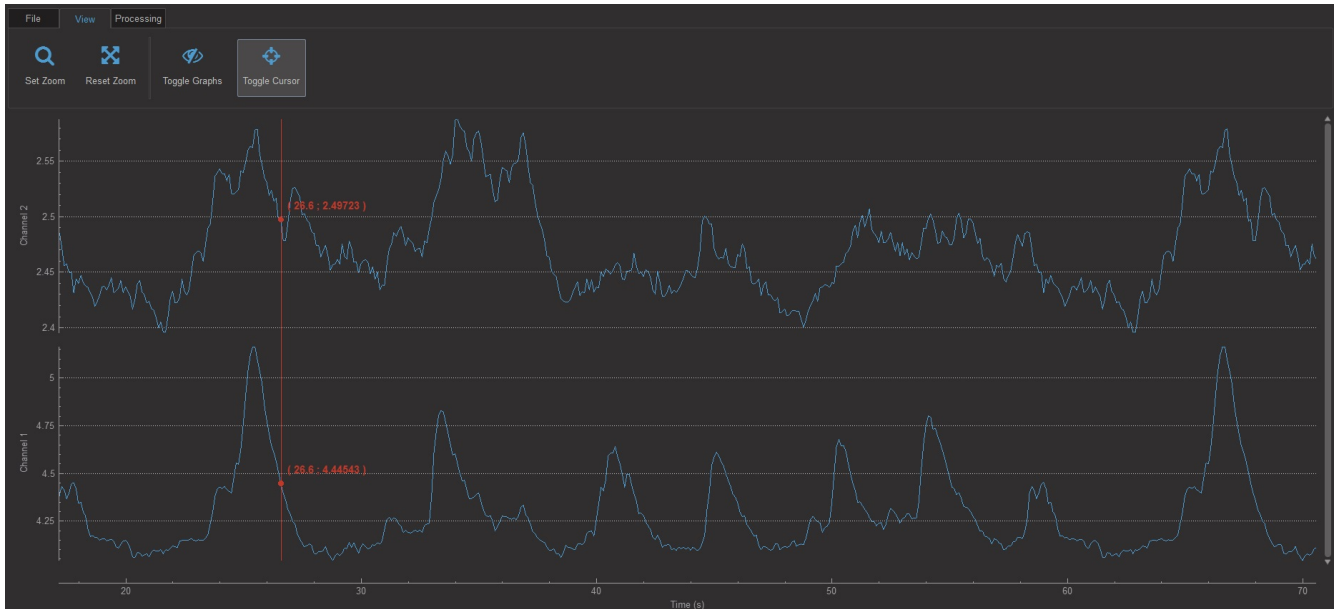

Figure 3.28: Photometry Analysis Module Interface
- The **Toggle cursor** button adds a cursor to the graphs that shows local coordinates of time and intensity, as displayed in red on figure 3.28.